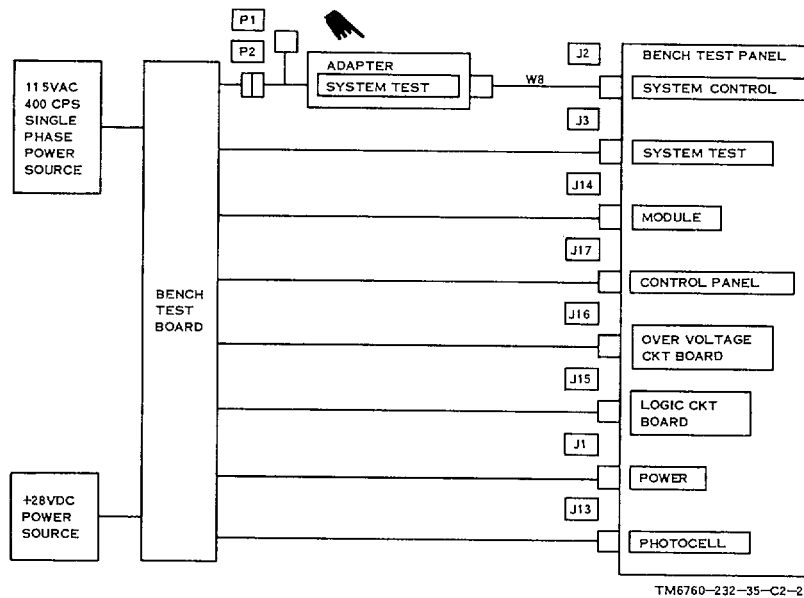

Figure 2-1. Test panel, operational check setup.
- (2) 1K, ½-watt resistor.
- (3) 1 mfd capacitor.
- (4) 120-ohm resistor.
- (5) Buffer amplifier.
b. *Operational Check Setup (fig. 2-1)*
- (1) Set POWER switch to OFF.
- (2) Set VOLTAGE CONTROL TEST switch to PH A (+ GATE CONT).
- (3) Set HV TEST control fully counterclockwise.
- (4) Set MASTER switch to LAMPS.
- (5) Set E V/H control fully counterclockwise.
- (6) Set SYSTEM TEST switch to SYNC.
- (7) Set MODULE TEST switch to K1 CLOSE.
- (8) Set LOGIC TEST switch to OPERATE.
- (9) KA-30-KA-76 switch to KA-30.
- (10) the test board to the bench test panel and adapter as shown in figure 2-1.
- (11) Set READY INTLK switch on adapter to OFF.
(12) Set PULSE RATE switch on adapter to NORM.
(13) Set VOLTAGE switch on adapter to 12V.